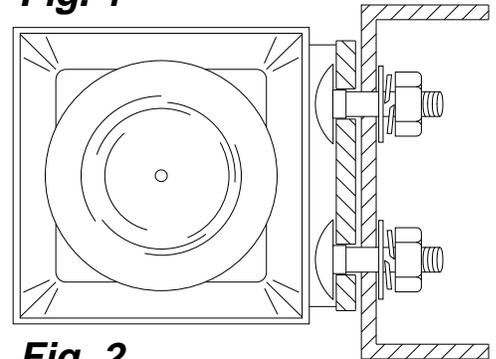

Fig. 2
4. Return the bracket to the mounting area and insert the supplied carriage bolts through the bracket and into the frame. On the inside of the frame place a flat washer on the bolt, followed by a split lockwasher and finally a nut (Fig. 2). Tighten this nut firmly. Repeat this procedure for the remaining carriage bolt.
WARNING: For drainage purposes, both the speaker box's wire passage hole and the siren drivers weep hole must be located in the "6 o'clock" (closer to the road) position for proper mounting (See Fig. 2). Improper mounting will not only result in driver failure, but will also void the product warranty.